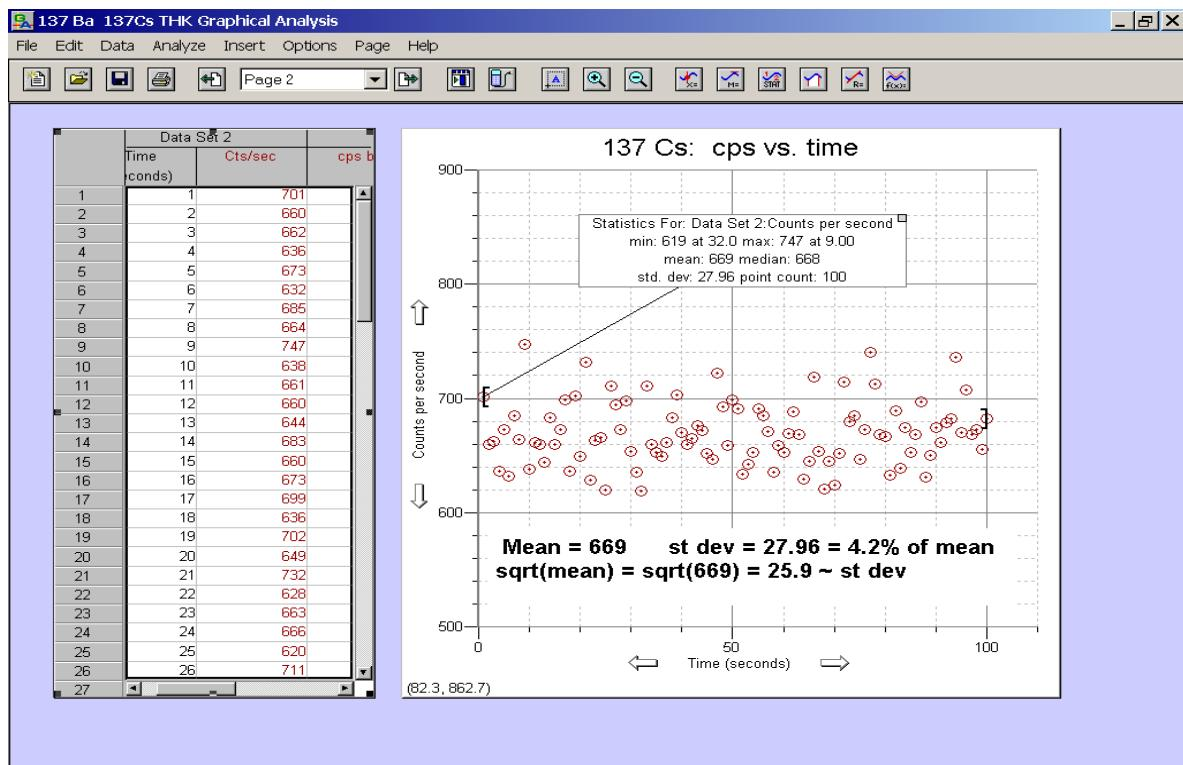

Figure 1 Statistical fluctuations in the random decay process
Thus, the size of the fluctuations will grow as the square root of the mean value (i.e., as the square root of the counting time per sample), but the percentage fluctuations will decrease as the inverse. Study Figures 1 and 2. Note the approximate equality among `stdev`, `sqrt(mean)` and `width` (C parameter) of the distribution histogram. The exact equality of `sqrt` and `stdev` is not to be expected, statistically, and the bin size chosen for the histogram can affect the fit.
5. Reduce the gaps in your histogram by increasing the bin width - double click on the histogram and increase the bin width to say, 10 or 15 and hit OK. Adjust the bin width until you get a histogram that looks like the one in Figure 1.